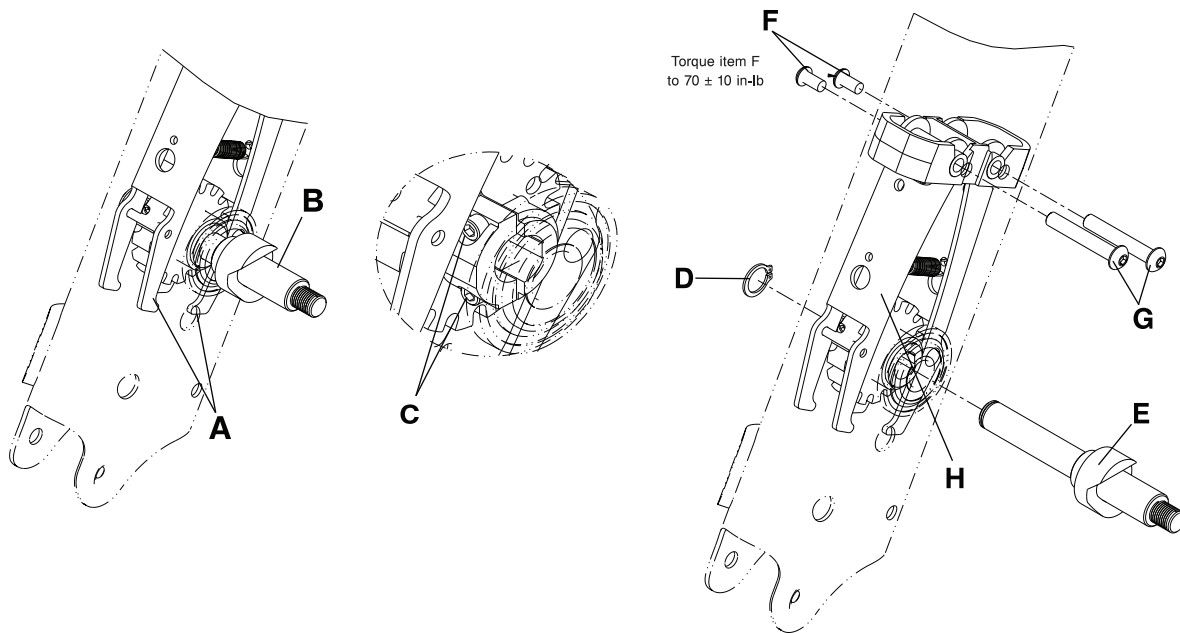

Figure 1-30: Brake finger assembly replacement
2. Using your hand, manually open the brake fingers (A). Using your other hand, manually rotate the rear wheel shaft assembly (B) so the socket head cap screws (C) face the bottom of the chair (Figure 1-30 on page 1-47).
3. Using a 9/64" hex wrench, loosen the two socket head cap screws (C) on the rear wheel shaft assembly (B) (Figure 1-30 on page 1-47).
4. Using snap ring pliers, remove the retaining ring (D) (Figure 1-30 on page 1-47) that secures the rear wheel shaft assembly (E) (Figure 1-30 on page 1-47) on the chair frame. Save the retaining ring.
5. Remove the rear wheel shaft assembly (E) (Figure 1-30 on page 1-47).
6. Using a 5/32" hex wrench and a 3/16" hex wrench, remove the screws (F) and brake finger spacer nuts (G) that secure the brake finger assembly (H) (Figure 1-30 on page 1-47). When reinstalling the screws (F), use a 3/8" drive torque wrench to torque the screws to  $70 \pm 10$  in-lb.
7. Remove and discard the brake finger assembly (H) (Figure 1-30 on page 1-47).